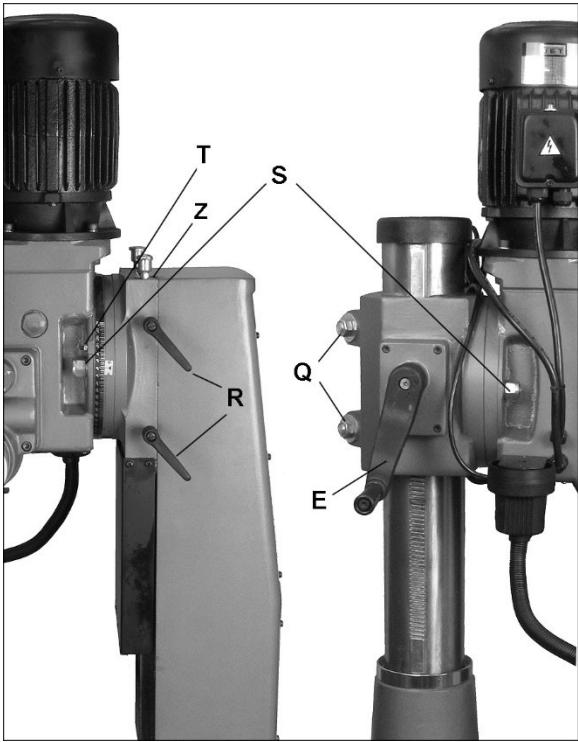

Figure 7-2: head adjustments
1. Screw three downfeed handles (F) into hub and tighten. Flat spot on rod accommodates an open or adjustable wrench. **Note:** Handle shafts are already installed into hub on powerfeed models.
2. Slide crank (E) onto shaft of column (see Figure 7-2) and tighten set screw. Make sure set screw seats on flat part of shaft.
3. Thread handle (D) into crank and tighten nut.
- Slide handwheels (A) onto shafts at front and both ends of table. If needed, tap with rubber mallet to seat handwheels onto shafts. Tighten set screws.
- Thread handle (D) onto each handwheel and tighten nut.
- Loosen lock handles/nuts (Q or R, Figure 7-2) and raise head using crank (E) to remove shipping block from table.
See Figure 7-2.
A Z-axis gib adjustment screw is located atop the square column near oil cup (see Z, Figure 7-2). Follow same principle as described under sect. 7.4.1. Slight drag should be felt when turning crank handle.